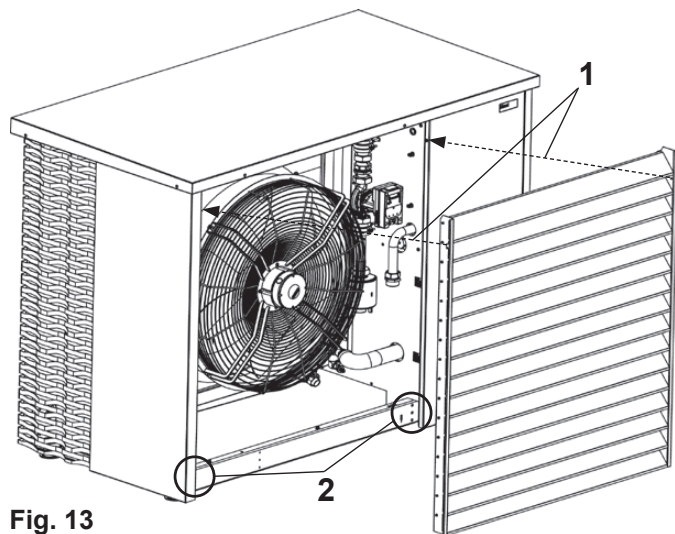

Fig. 13
- Undo both screws (1, Fig. 13)